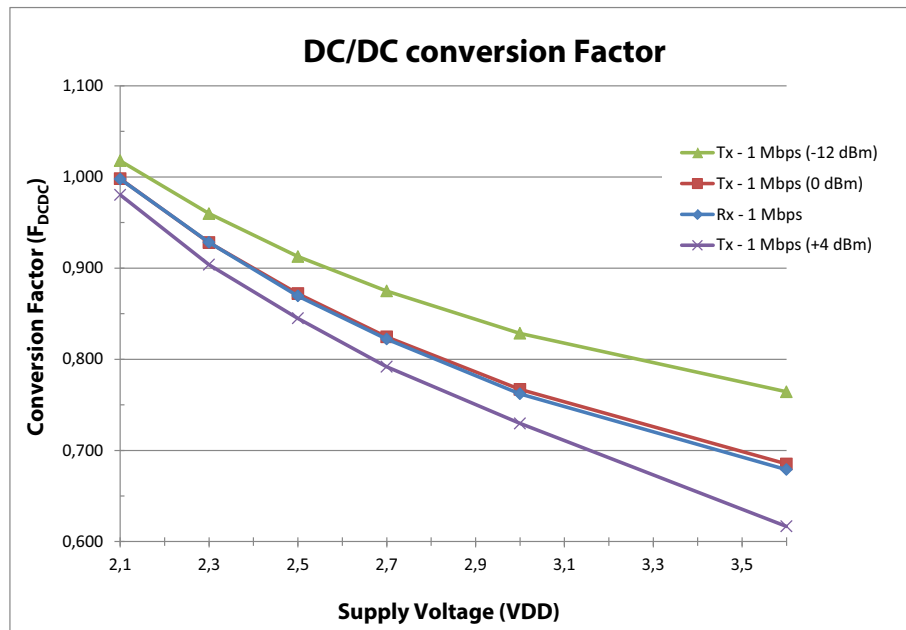

Figure 10 DC/DC conversion factor as function of VDD
4. F_{DCDC} will vary depending on VDD and internal radio current consumption (I_{DD}). Please refer to the *nRF51 Series Reference Manual*, v3.0 or later, for a method to calculate $I_{\text{DD,DCDC}}$. See **Figure 10** on page 46 for a DC/DC conversion factor chart.